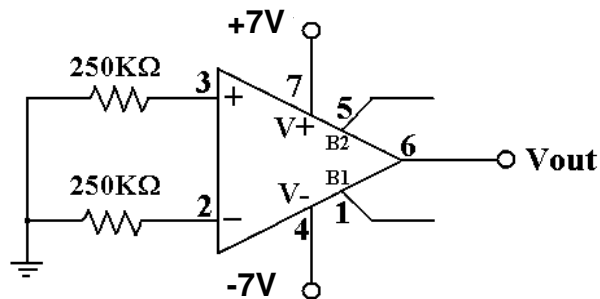

Fig. 4. Offset Current Measurement Configuration
- Connect the circuit in Fig. 4, and use the dual power supply $\pm 7\text{V}$. Measure the resistor values accurately before you connect them. Measure the voltages across the two $250\text{k}\Omega$ resistors. Connect the Opamp output to ground.